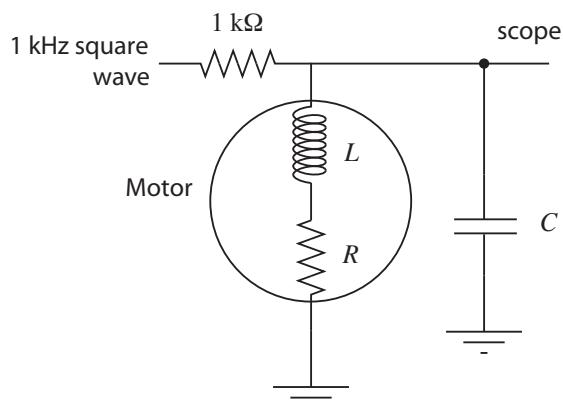

Figure 13.14: Using a capacitor to create an RLC circuit to measure motor inductance.
**Terminal inductance  $L$**  There are a number of ways to measure inductance. One approach is to add a capacitor in parallel with the motor and measure the oscillation frequency of the resulting RLC circuit. For example, you could build the circuit shown in Figure 13.14, where a good choice for  $C$  may be  $0.01 \mu\text{F}$  or  $0.1 \mu\text{F}$ . The motor acts as a resistor and inductor in series; back-emf will not be an issue, because the motor will be powered by tiny currents at high frequency and therefore will not move.